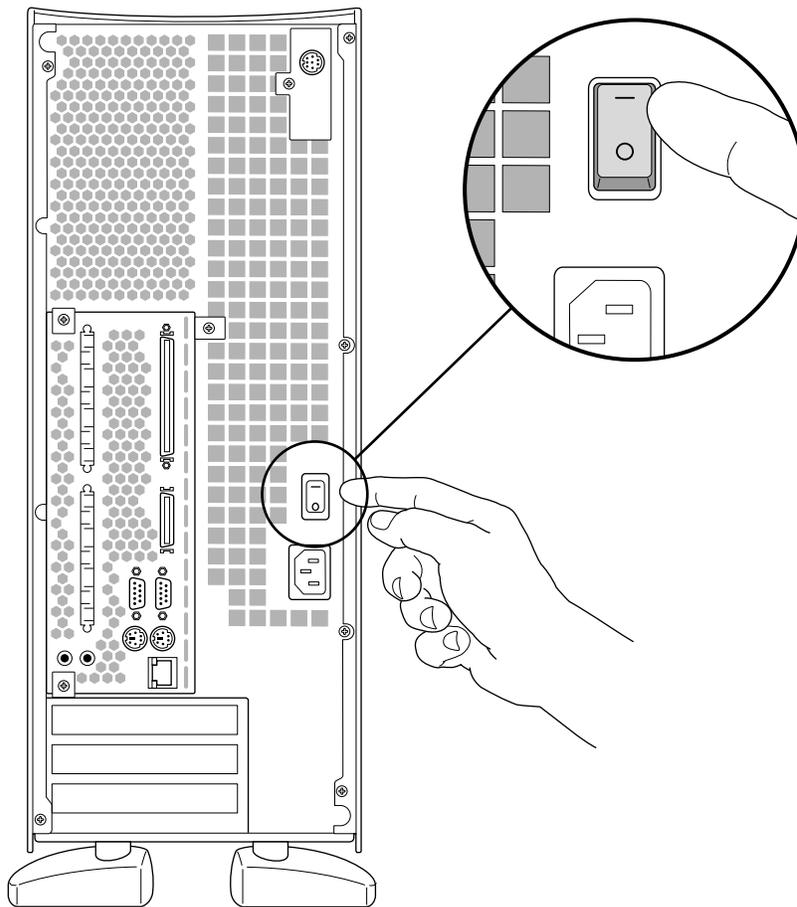

Figure 4-2 Turning On the Master Power Switch (CPU Module Shown)
1. At the rear of the system, turn the master power switch on, as shown in Figure 4-2.